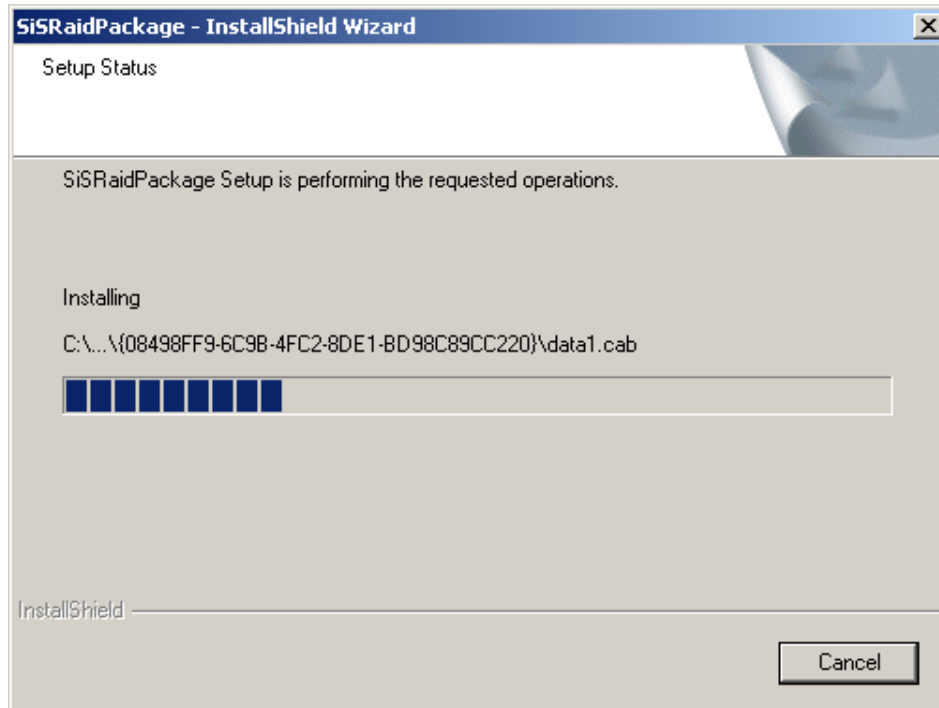

Figure 6-35: Setup Status
Step 13: Click **INSTALL** and the install shield begins to extract and install the files (**Figure 6-35**).